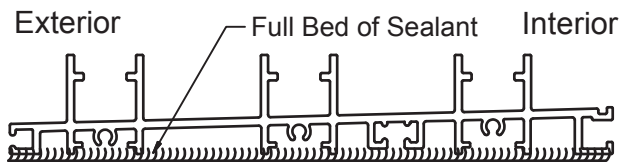

Figure 5.
**Step 6. (Installation)** Place assembled frame unit in bed of sealant full length of the frame sill (See Figure 5). If the installer chooses to install the sill riser after the frame has been placed in the rough opening, ensure that sufficient room is available.